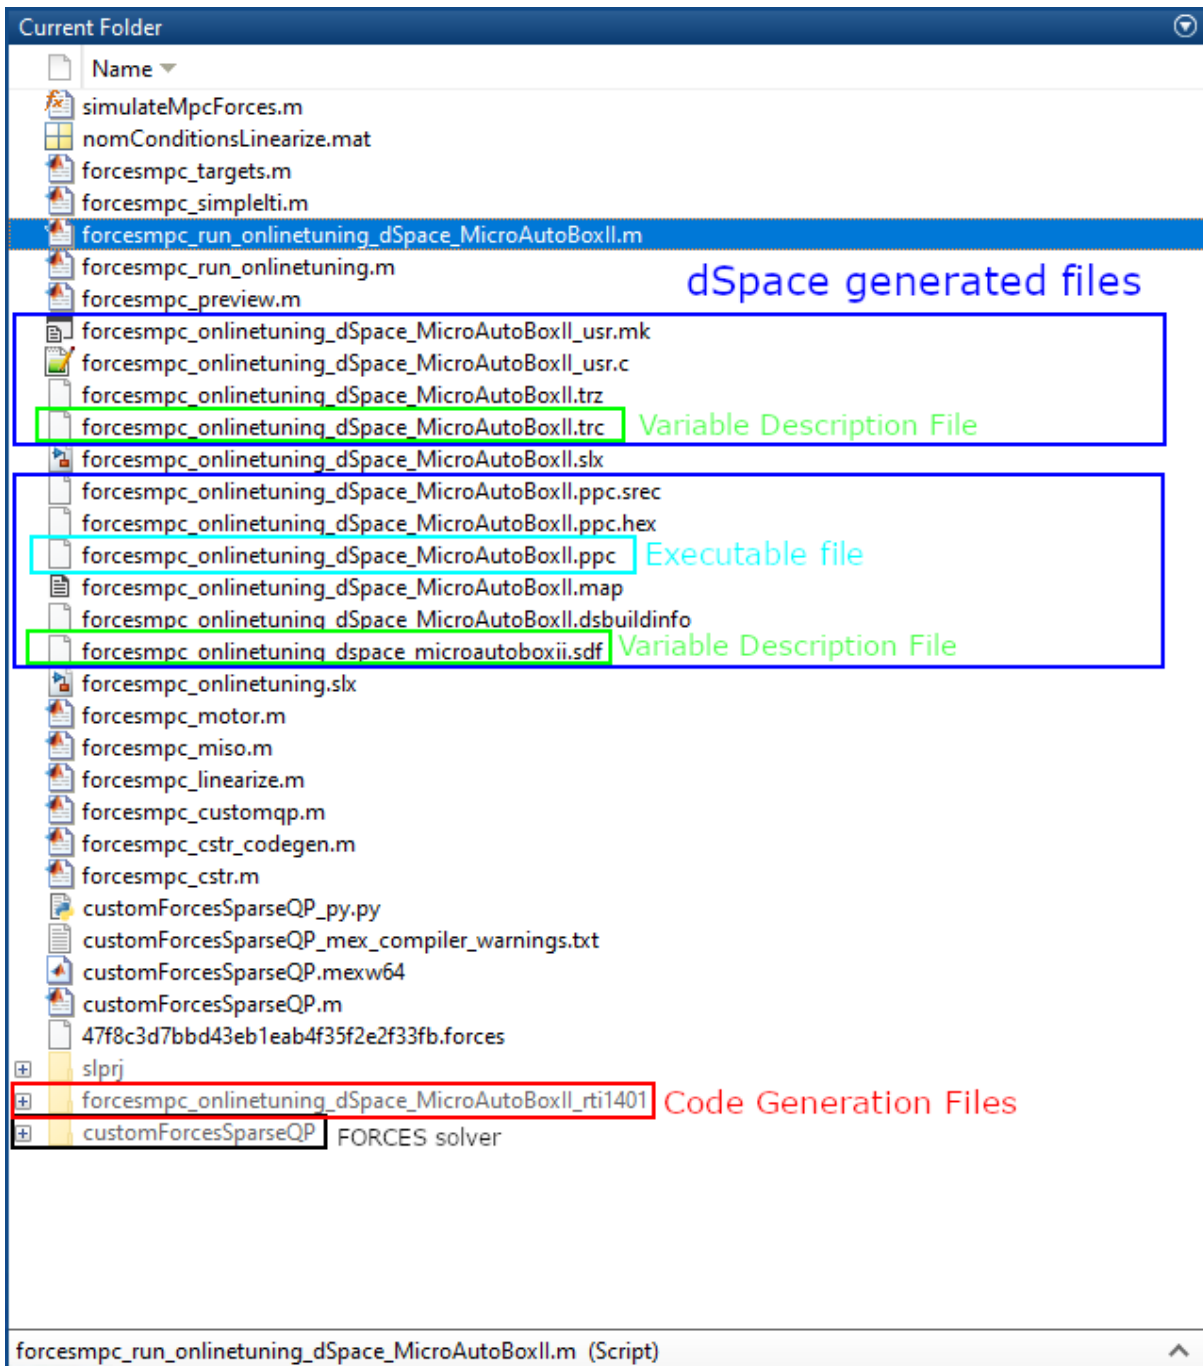

Figure 5.7: The generated files from the Simulink Code Generation
- 5) After code generation the dspace compiler (Microtec PowerPC) generated files to use to run your model on the MicroAutoBox II (see Figure 5.7).